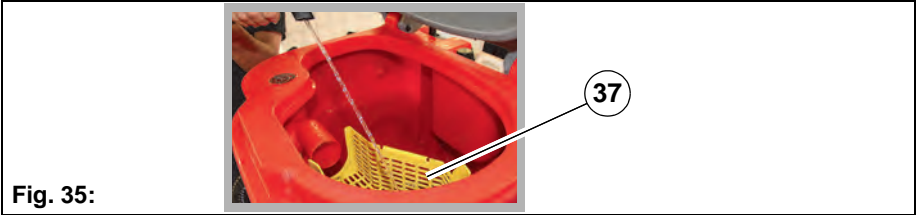

**Fig. 34:**
2. Open fastener at drain hose **Fig. 34-A** and remove hose.
3. Open the tank cap **Fig. 34-B** of the waste water tank.
- Open the tank cap until the support **Fig. 34-C** engages.
4. Clean the waste water tank thoroughly with the water hose/spray nozzle **Fig. 34-D**.
- Release the support **Fig. 34-B** with your right hand and close the tank cap.